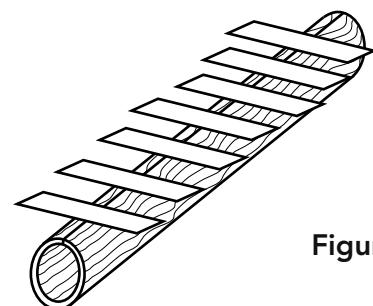

Figure 4
16. With the form in place use thin, 1/4" wide, strips of masking tape to "clamp" the joint together. Make sure the joint is straight and the ends are lined up. See figure 4.